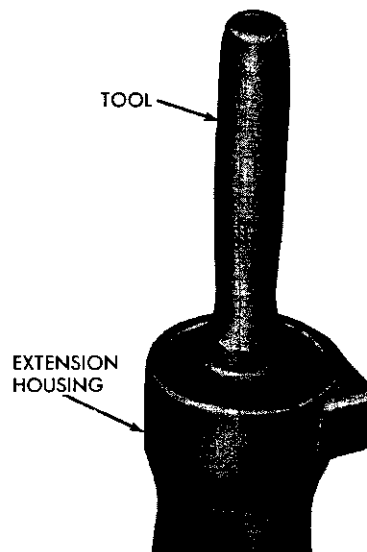

Fig. 36—Installing Output Shaft Bearing
(3) Place a new bearing in the opening of the extension housing. Using Tool C-3204, drive the bearing into housing (Fig. 36). Install bearing retaining snap ring.
(4) Place a new seal in the opening of extension